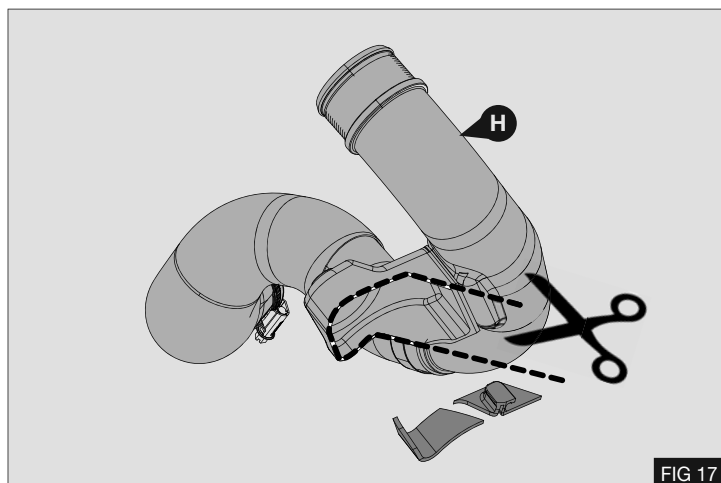

FIG 17
1. Modify the intake pipe (H) by carefully removing the sections shown. - Fig 17
2. Re-fit modified pipe (H) and secure using the original nut and hose clips.